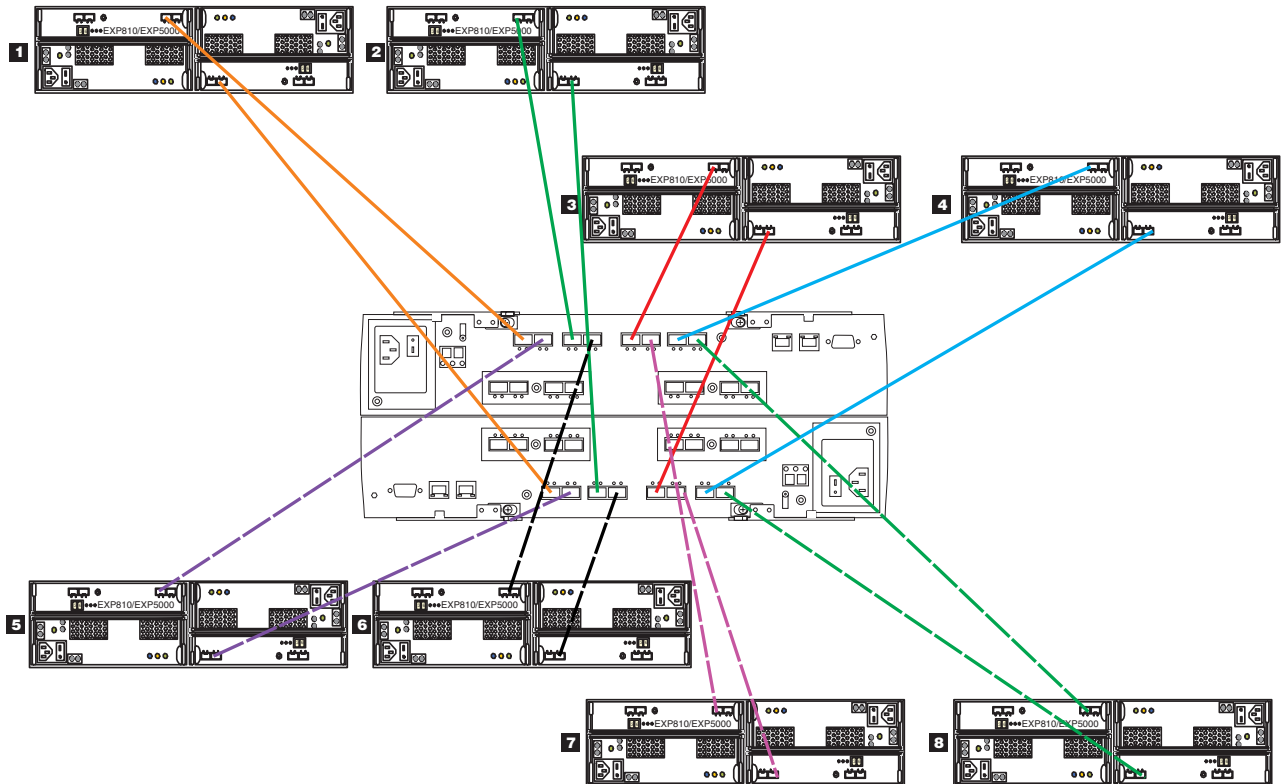

Figure 10. Use all drive channel ports when connecting storage enclosures
- When you connect the storage enclosures to drive mini hubs, do not use all ports in each of the drive mini hubs in the DS4400 or DS4500 storage subsystem. Connect the Fibre Channel cable to only one port of the drive mini hub and leave the other port unoccupied. However, when you connect the storage enclosures to drive channel ports (such as on the DS4200, DS4700, DS4800, DS5020, DS5100 and DS5300 storage subsystem), use all ports in each of the drive channels. Figure 10 illustrates connecting eight storage enclosures to the DS5000 storage subsystem. The eight enclosures are connected to use all of the drive channel ports in the DS5000 storage subsystem instead of stacking the storage enclosures behind a subset of drive channel ports.